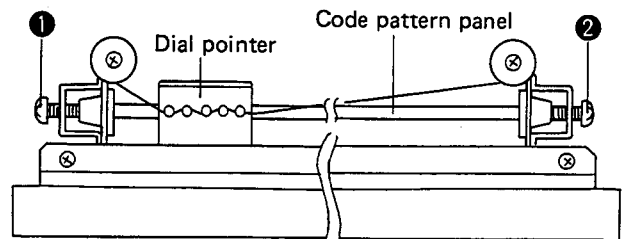

Fig. 32 Top view
13. Adjust the mounting position of the code pattern panel using screws ① and ②, so that the station indicator on the dial pointer lights up (Fig. 32).